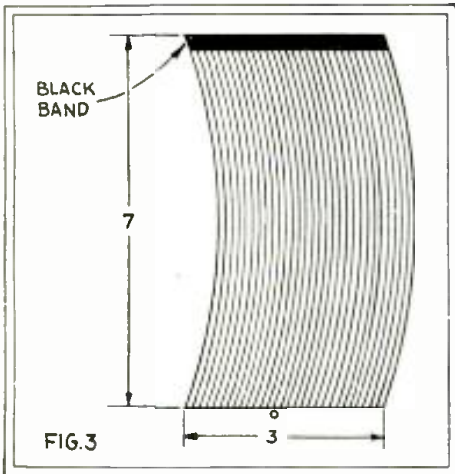

FIG. 3
**I**N the transmission of images, and their reception, by the Baird system, now in use in England, a somewhat similar principle is employed. In following this description, it must be remembered that, on the Baird televisions, the image is framed at the side of the disc, and scanned from bottom to top; it is narrow and high (Fig. 3).
On each side is mounted an electromagnet, so connected that poles of opposite polarity are always presented to the cogwheel. The surface of each magnet pole is exactly equal in size to the outer face of each cog, and the clearance is very small—about 1/500-inch. The cogwheel, which is keyed to the driving shaft of the scanning disc, is so set that, whenever a hole on the scanning disc is just half covered by the frame of the window (that is, half of it is in the black band of Fig. 3) two opposite teeth of the cogwheel are exactly facing the magnet poles.